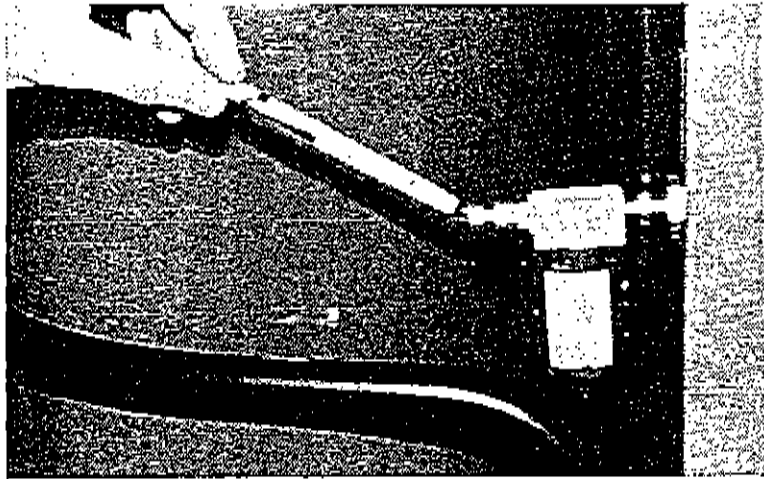

Fig 1
Please note that the oil filter is mounted (fig 1).
- Connect the station to compressed air (fig 1). The compressed air is ordinary workshop compressed air without oiling. The pressure must be between 5 and 8 barg.